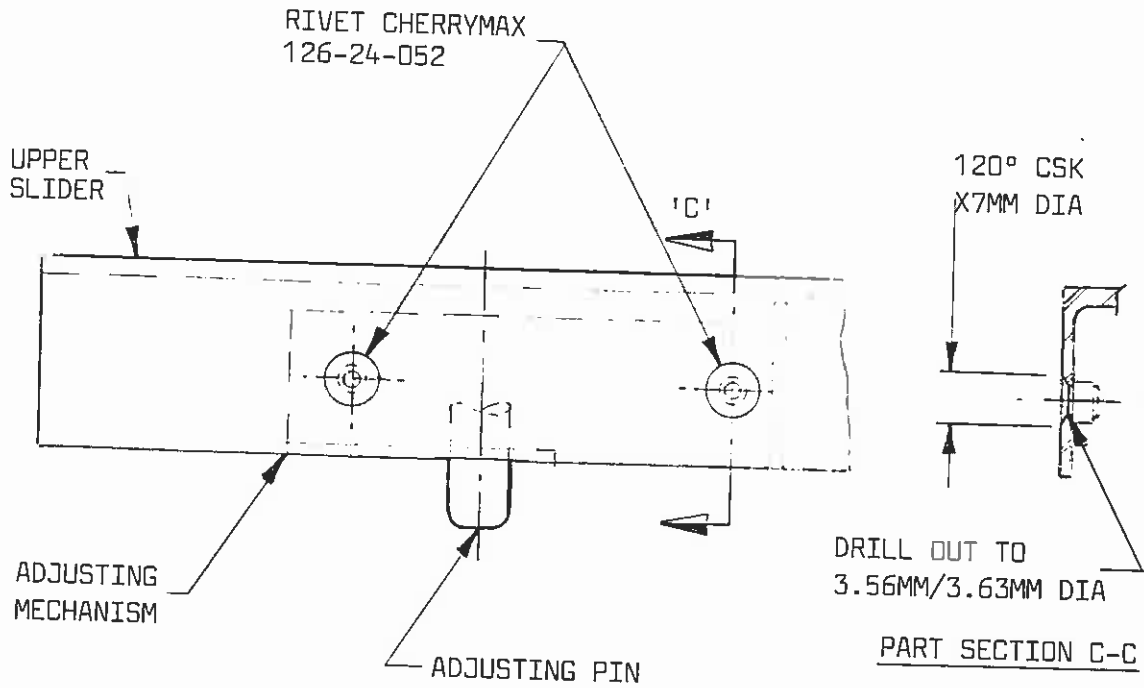

FIG 3
- 4.4 Adjusting mechanism attachment rivets, ref Fig. 3.